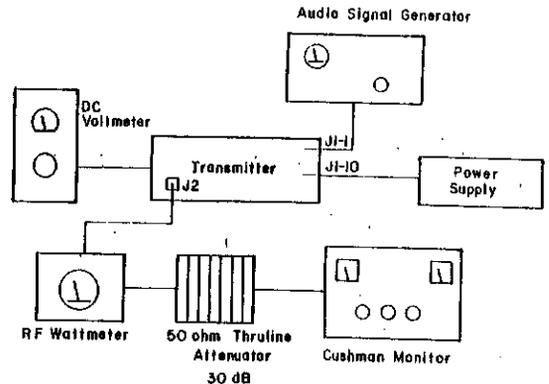

Fig. 4
1. Connect the test equipment to the transmitter as shown in Figure 4.